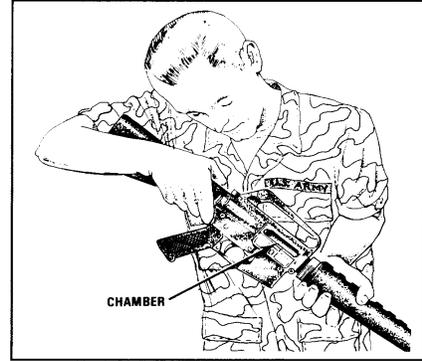

Figure 10-3. Inspecting the chamber
- (1) Pull the charging handle rearward.
- (2) Press the bottom of the bolt catch.
- (3) Allow the bolt to move forward until it engages the bolt catch.
- (4) Return the charging handle to the forward position.
- (5) Ensure the selector is on SAFE.
- e. Check the receiver and chamber to ensure they do not contain ammunition (figure 10-3).